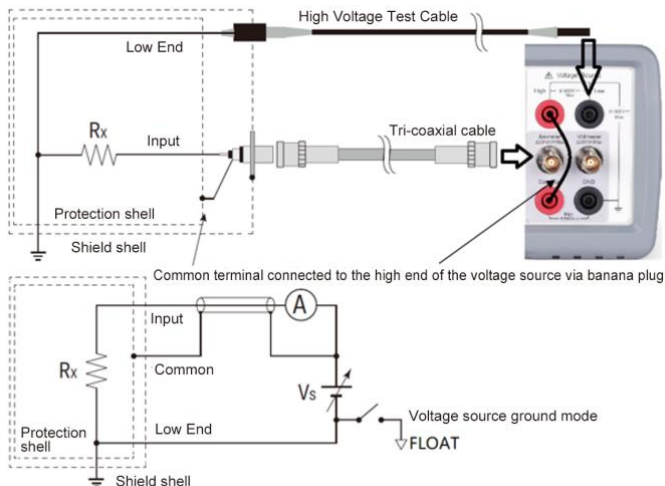

Figure 5-11 Grounded Device Measurement
**Note:** The connection shown in Figure 5-11 applies the voltage to the Common terminal from the Voltage Source. The voltage up to  $\pm 500\text{V}$  can be applied to the Common terminal.
**Note:** Voltage Source Low terminal is internally connected to or disconnected from the circuit common as shown in Figure 5-11. See "Low Terminal State" for more information.